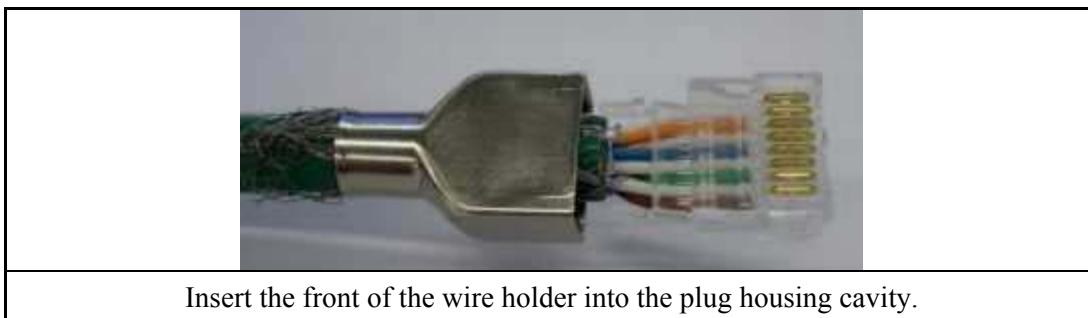

Figure D-14: Cable Positioning, Insert Wire Holder
6. Insert the front of the wire holder and the ends of the conductors into the cavity of the plug housing, as shown in Figure D-14.